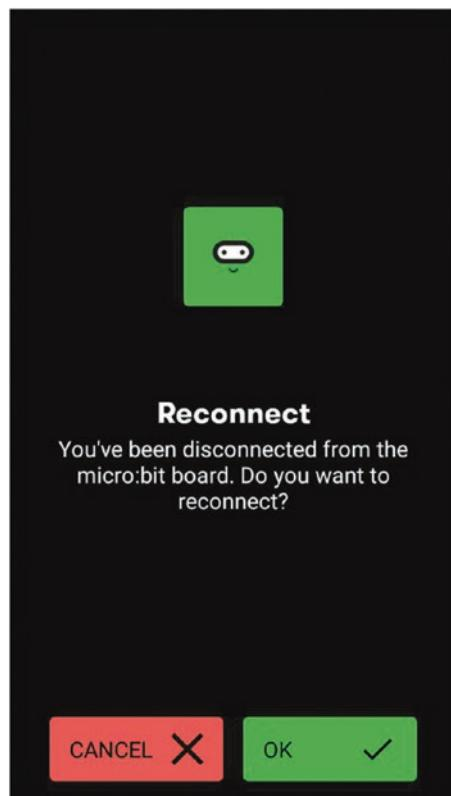

Figure B-19. The Reconnect screen
9. If you want to reconnect the app to the micro:bit board, tap the OK button (see Figure B-19).